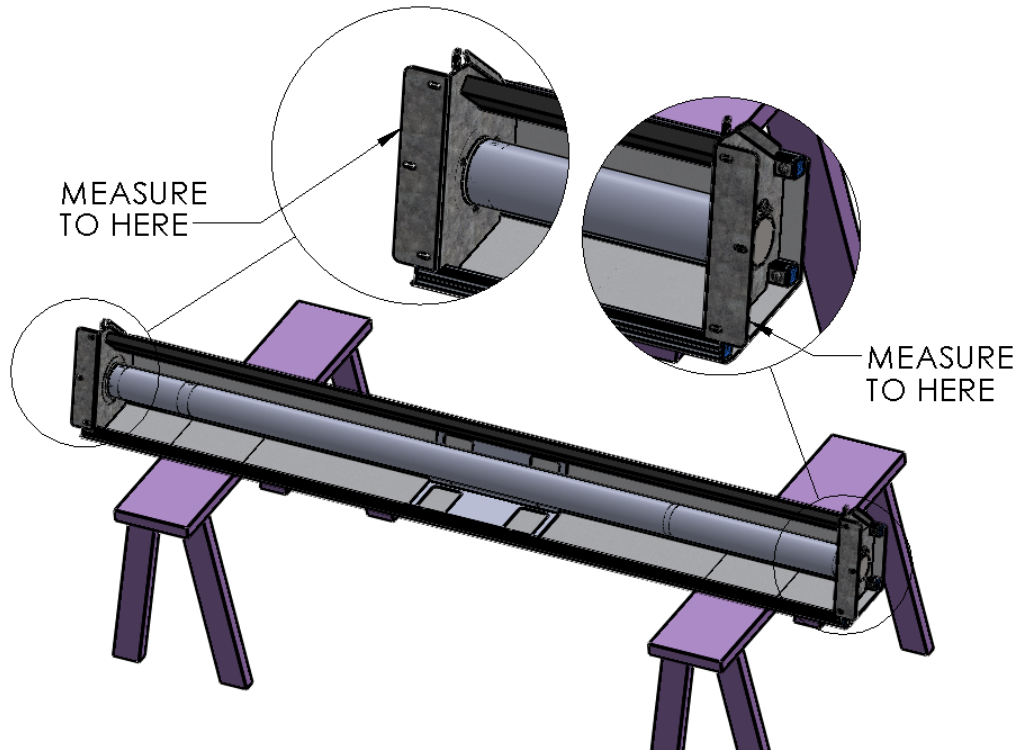

Figure 2 MEASURE DOOR WIDTH
2. Place the G2 Door Roll Header Assembly across two saw horses, or another safe and level work surface, and rotate the roll assembly frame so that the Header Bracket mount flanges are facing upward. (Figure 2 MEASURE DOOR WIDTH).
3. Measure the entire width of the Roll Header Assembly from the outermost edge of one Header Bracket mounting flange to the outermost edge of the opposite side. (Figure 2 MEASURE DOOR WIDTH)